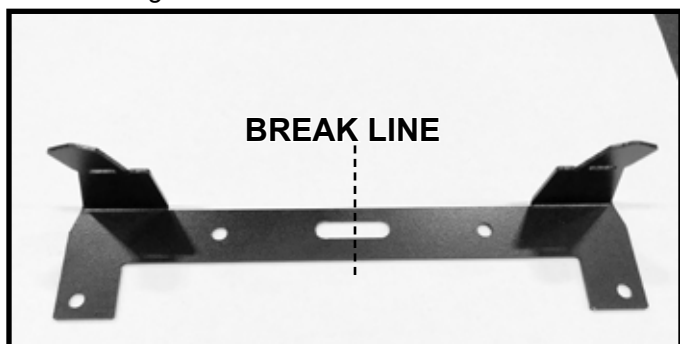
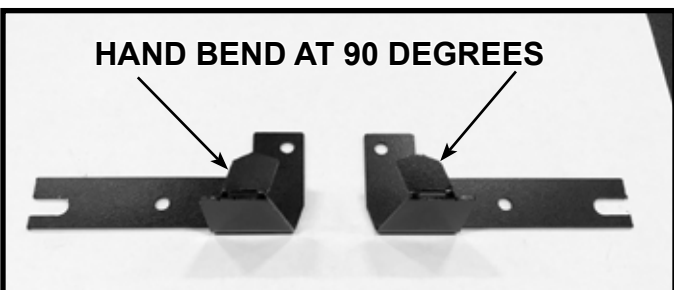

Figure 5.6 Glass Mounting Bracket
Figure 5.8 Form Glass Mounting Bracket
13. Break the glass mounting bracket into two pieces as shown in Figures 5.6, 5.7 and 5.8. Make the hand bends as shown in Figure 5.8 to form the glass mounting brackets.